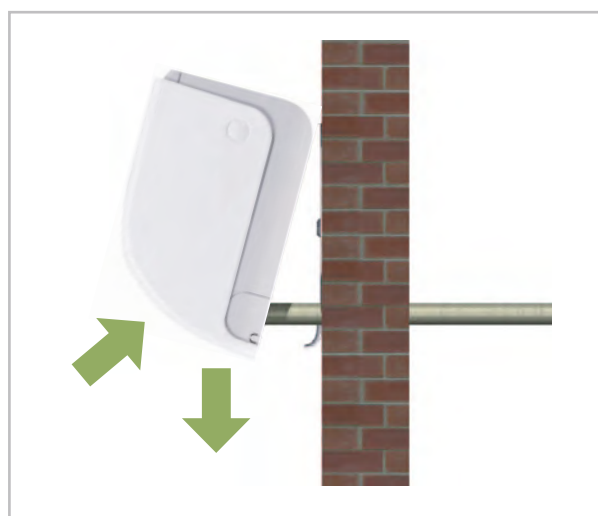

Fig. 36: Horizontal positioning
5. ➤ Check again that the unit is level. (Fig. 36)